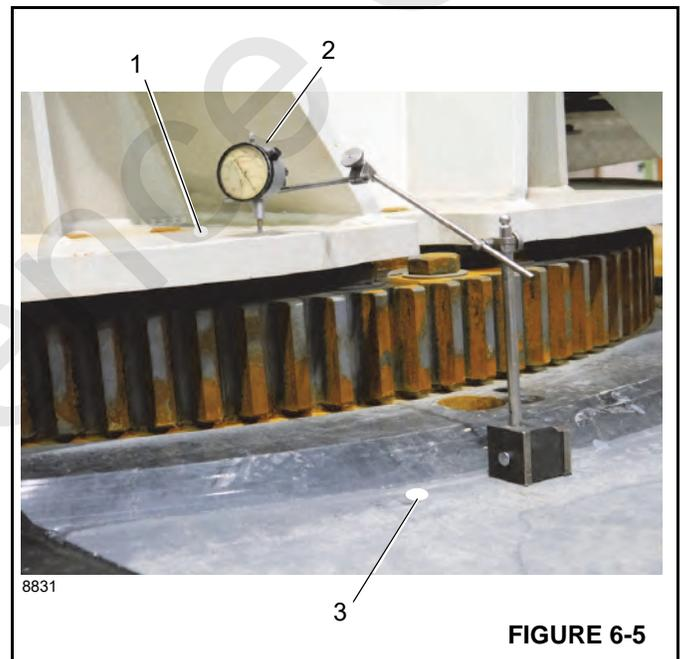

FIGURE 6-5
2. Put a dial indicator (2, Figure 6-5) opposite the boom on the T-box frame (3).
3. Place the dial on the top of the turret bearing plate (1, Figure 6-5).